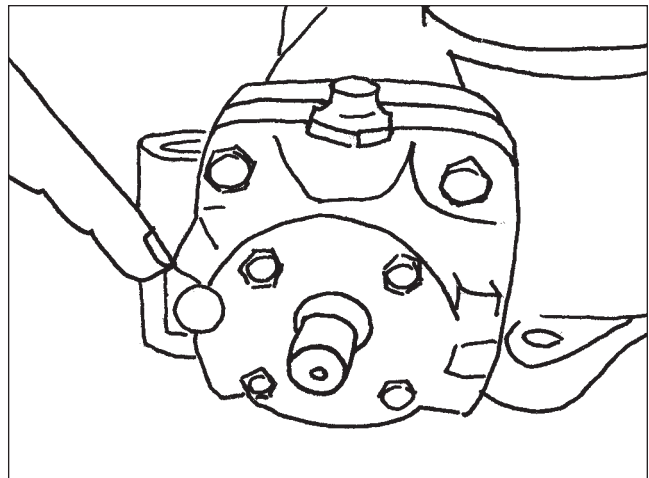

Figure 13
11. If the steering gear you are working on has a grease fitting in the bearing cap cover, remove it at this time. Fill the grease fitting hole with RTV to prevent ingestion of contaminants. No further greasing will be required. (**Figure 13**)